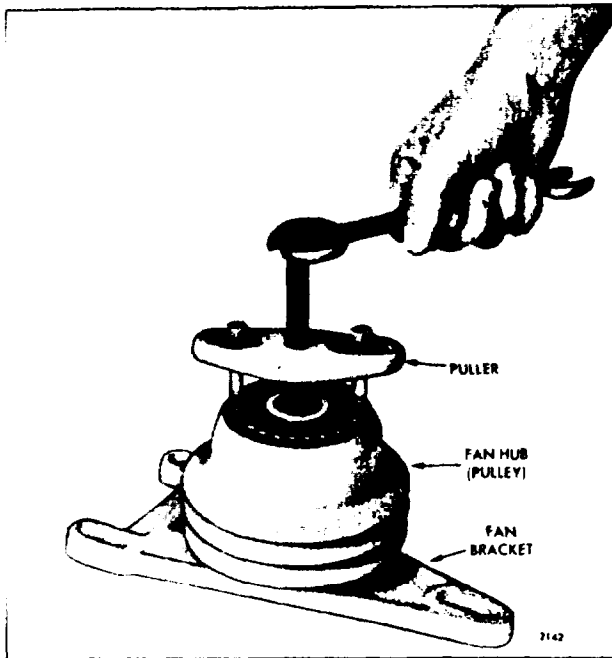

Fig. 3 - Removing Fan Hub (Pulley)
2. Remove the fan huh from the shaft with a puller as shown in Fig. 3.